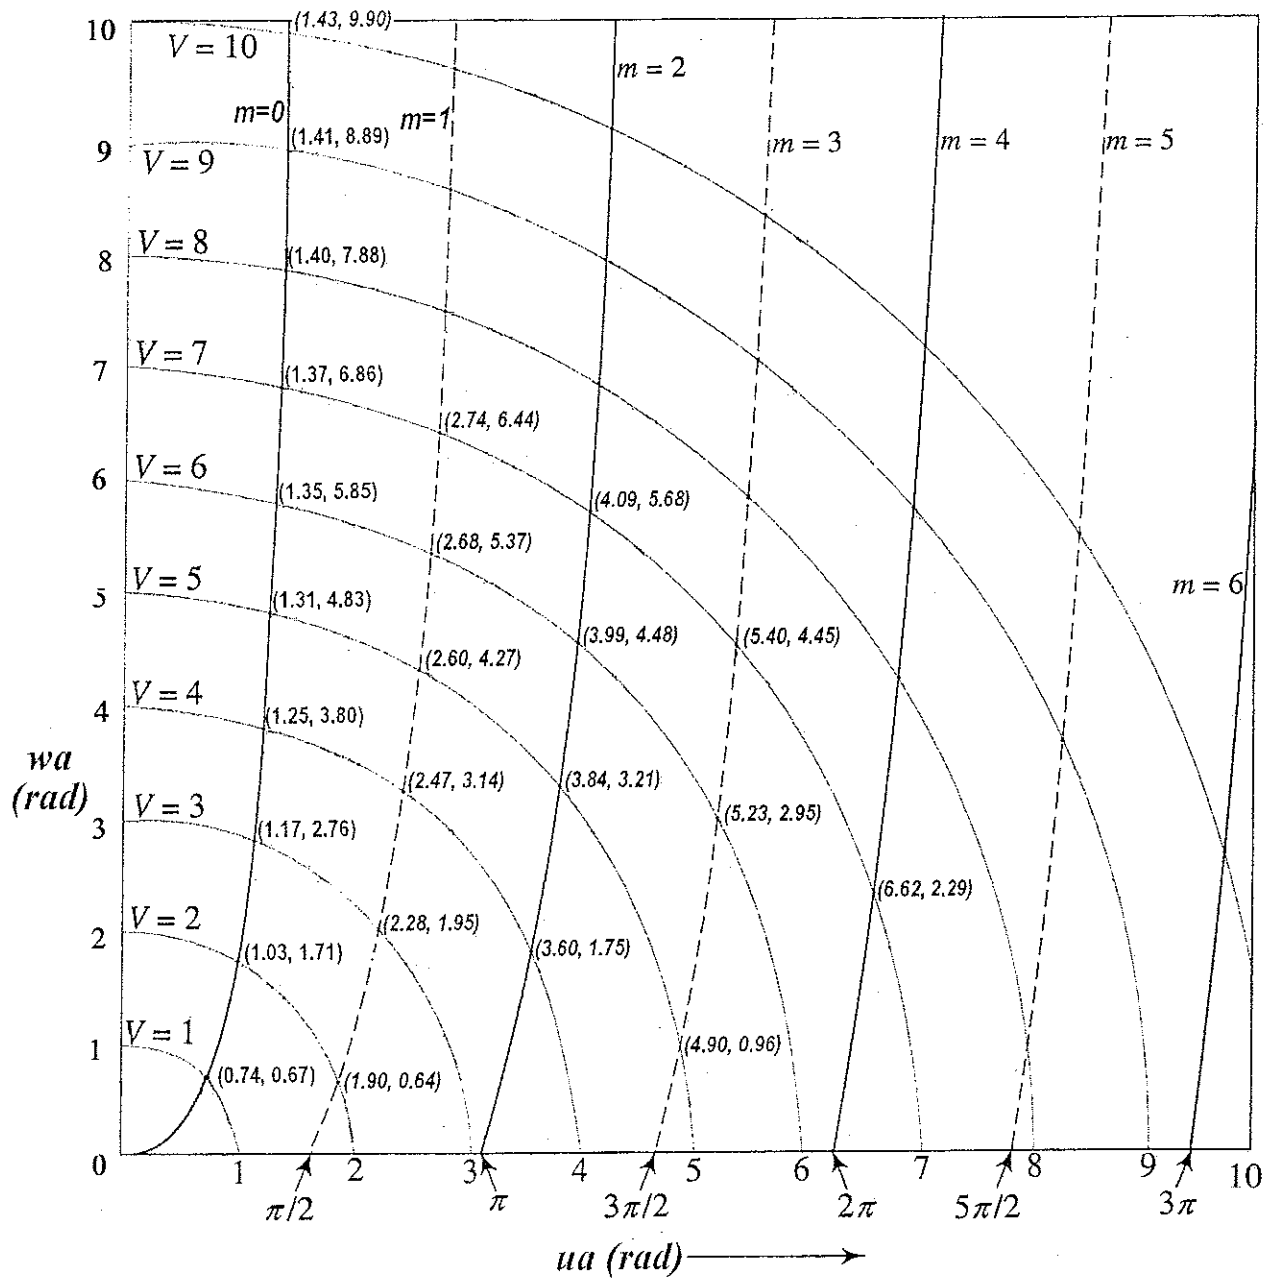

Figure 2
- Q11. Design a planar rectangular optical waveguide so as to have a maximum guide thickness to allow two modes of propagation at wavelength  $\lambda = 1.31 \mu\text{m}$ . The critical angle for the guide – cladding interface is  $80^\circ$ . The guide refractive index is 1.5. If the wavelength is reduced to  $0.9 \mu\text{m}$ , how many modes can the guide support now? Use Figure 2.